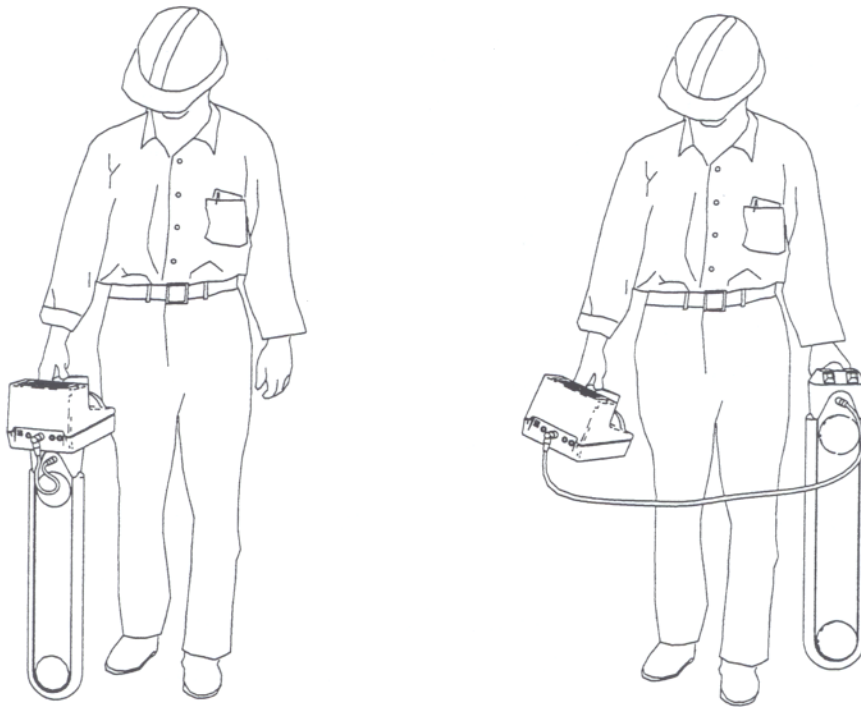

Fig. 1-5 Receiver-Antenna Configurations
- ⑦ **Mode Select Indicators**    : These legends show the four possible modes of operation. A flag () appears below the selected mode. You can select only one mode at a time.
- ⑧ **Output Level Indicator** : If you select high power output, the LCD flag above the legend is visible. Otherwise, normal power output is selected.
- ⑨ **Bar Graph Indicator:** A twenty-segment bar with numeric legends above and below. In  (trace) or  (tone) modes, the upper and lower numeric legends are not visible and the bar graph indicates the relative magnitude of the Transmitter signal. In  (ohms) mode, the lower numeric legend is visible and the bar graph reads resistance. In  (volts) mode, only the upper numeric legend is visible and the bar graph reads either AC or DC volts.
- ⑩ **Voltmeter Mode Symbol** : This symbol is visible when the bar graph displays measured voltage.
- ⑪ **Output Mode Symbol** : This indicator is visible when the bar graph displays relative output signal level.
- ⑫ **Ohmmeter Mode Symbol** : This indicator is visible when the bar graph displays measured resistance.
- ⑬ **Battery Level Indicator** : This symbol contains three horizontal bars that indicate relative remaining capacity of the batteries. If all three bars are visible the batteries are good. When the two lower bars are visible, alkaline batteries are good but Ni-Cd batteries are starting to get low. When only the lower bar is visible, alkaline batteries are getting low but they will probably finish the job. Ni-Cd batteries are low and should be used only on short jobs. They should be re-charged soon. If no bars are visible, Ni-Cd batteries need to be charged and alkaline batteries need to be replaced. The battery level indicator is continuously displayed.
- ⑭ **Input/Output Jack** : Input and output signals are connected here using the Direct Connect Cable or a Dyna-Coupler Extension Cable. In  (ohms) or  (volts) modes, the measurement is made through the Direct Connect Cable plugged into this jack. With the plug removed and the Transmitter in  (trace) mode, the internal induction coil is energized.
- ⑮ **Battery Charger Jack** : The external battery charging accessory is connected to the Transmitter through this jack. The Transmitter may be operated from 12 VDC supplied by an automotive battery. The voltage is applied to the Transmitter through the battery charger jack using the 12-volt automobile adapters (refer to Section 6, para. 1.7).
- 2.4 The Receiver operates with the antenna either attached or detached as in Fig. 1-5.